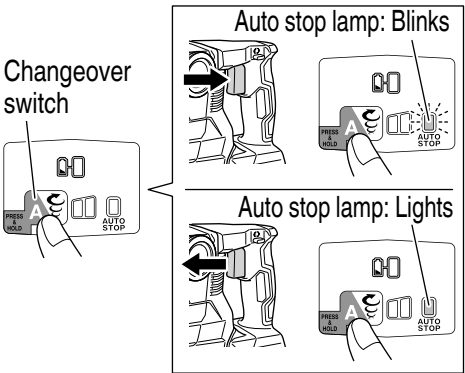

Fig. 39
- Auto stop mode (on/off) (Fig. 39)
In selection mode, pressing the changeover switch for longer than two seconds will move to memory mode. (Fig. 39)